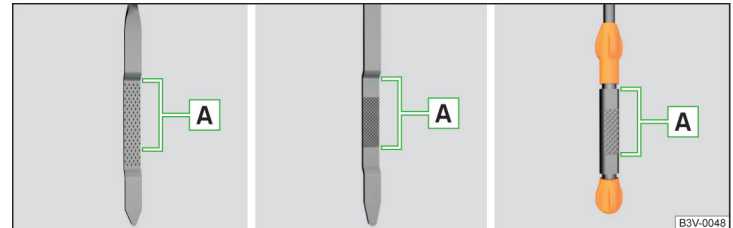

Fig. 308 Dipstick variants
The oil level must be in range **A** » Fig. 308. If the oil level is below the range **A**, refill the oil.
- The oil level must never fall outside range **A** » Fig. 308 - otherwise there is a risk of damaging the engine and the exhaust system.